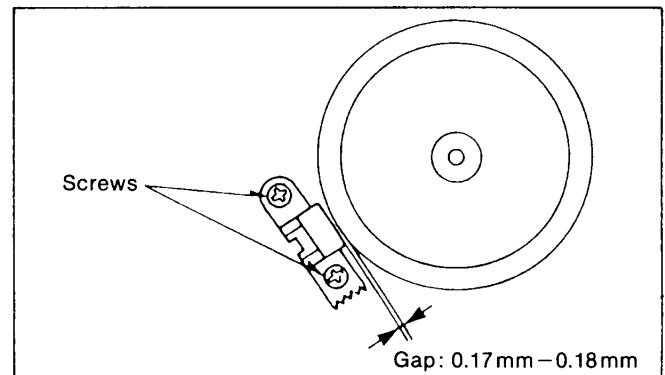

Figure M44
1. Slightly loosen 2 screws. (Figure M44)